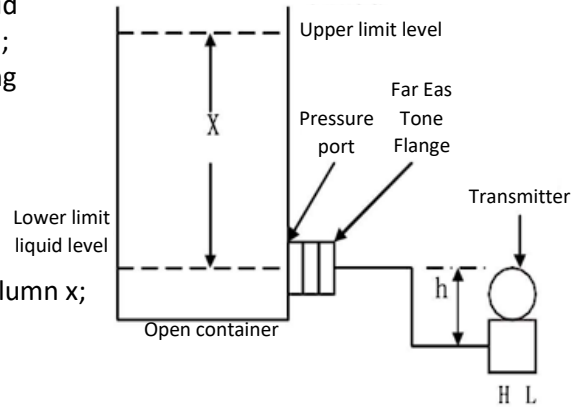

Figure 5-10 The transmitter is lower than the pressure port
3. When the transmitter is lower than the pressure port and the lower limit liquid level is level with the pressure port (see Figure 5-10), the measurement range value is determined as follows